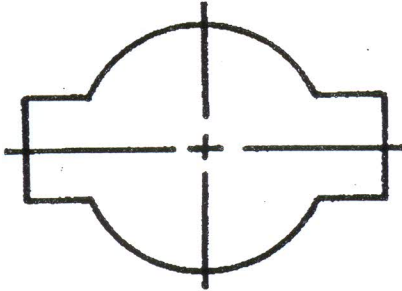

Figure 7: An Electrical pushbutton
- i. There are four (4) advantages of air-plasma cutting, state two (2) advantages only. (6 marks)
- (c) Punching of special-shape holes in sheet metal and plate can be done in many ways. Figure 7 shows that a typical hole for an electrical pushbutton. A special punch-and-die set could be manufactured for this application at a cost of approximately RM2500. However, this punching job can be done at a considerably lower tooling cost.
- i. Referring to Figure 7, Suggest briefly how to lower the tooling cost?